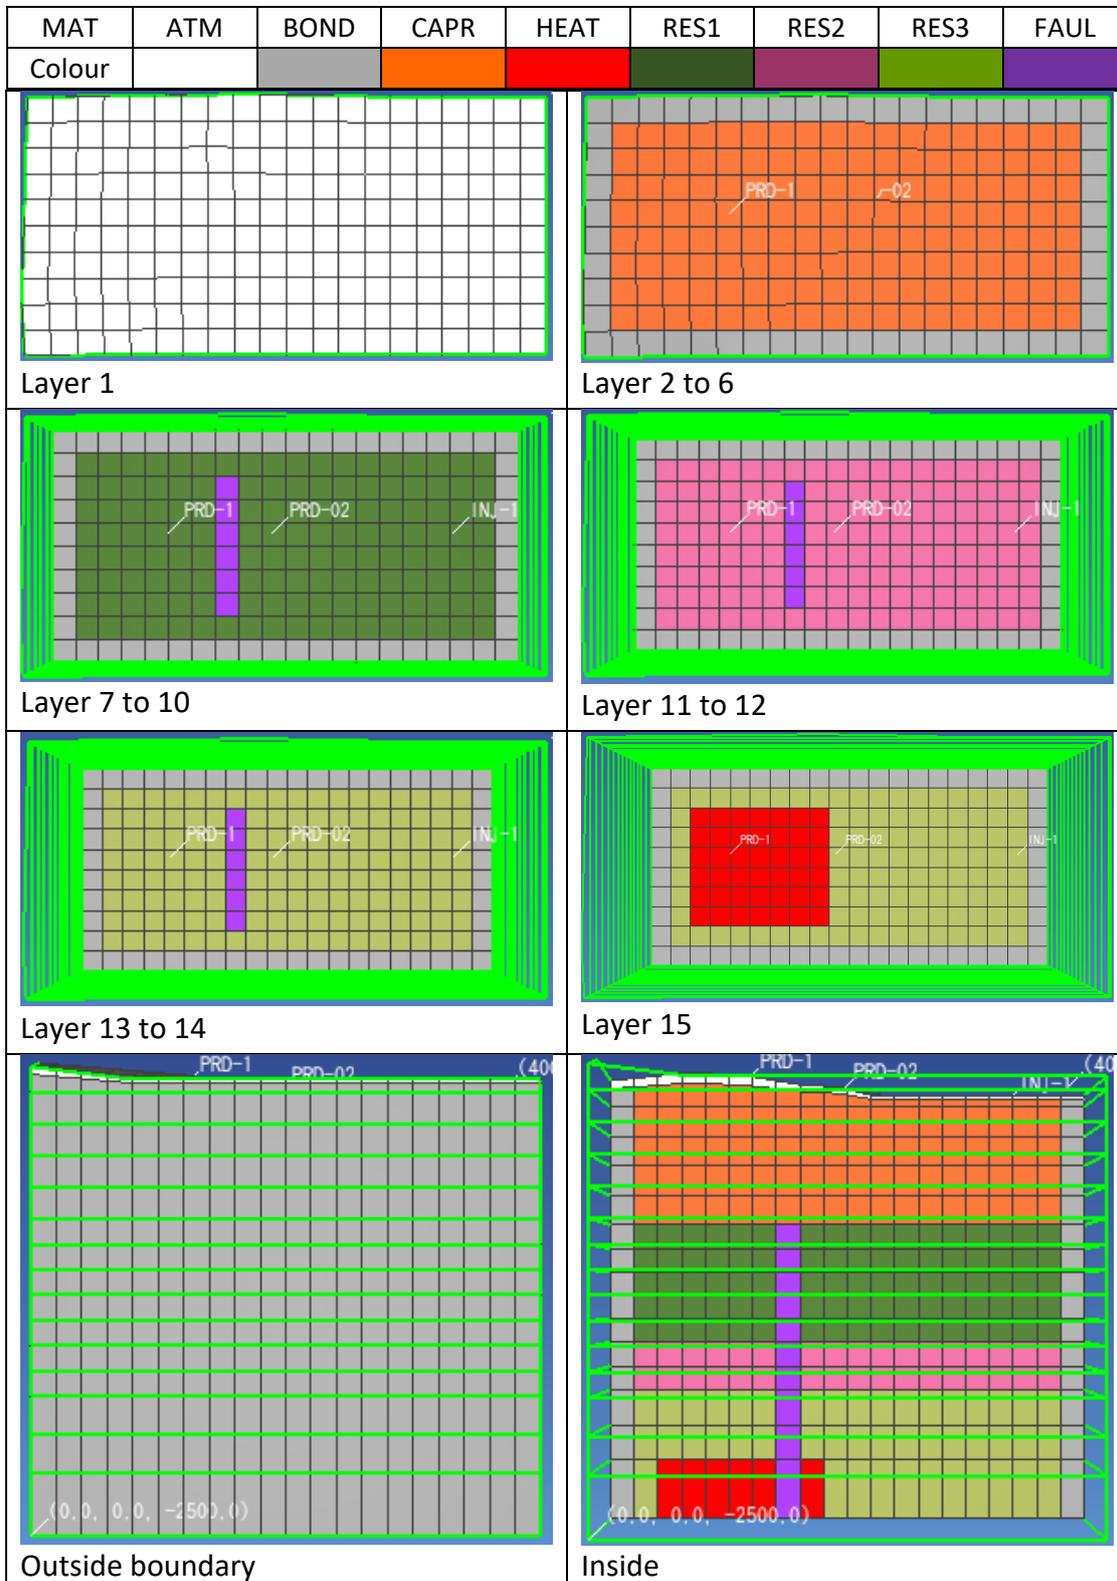

Figure 7. Layers with material data.
4. Choose the appropriate material data base on Figure 7.
4. Right-click the selected cells, and click **Edit Cells ...** (Figure 7 – layer 15)